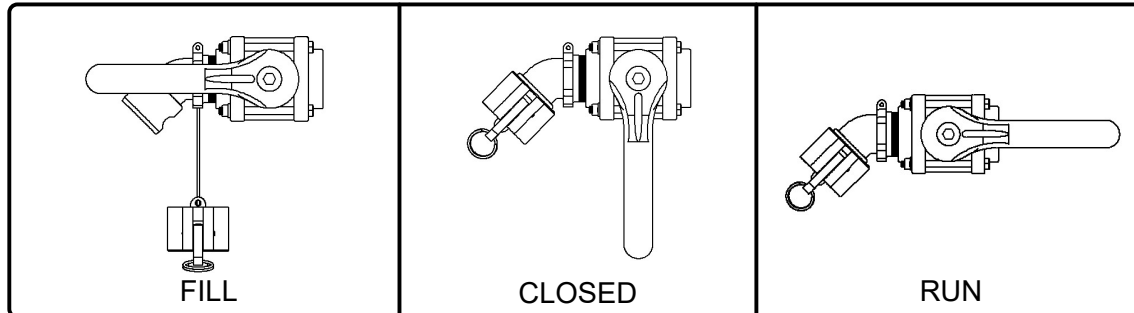

Figure 2A - Fill Position Figure 2B - Close Position Figure 2C - Run Position
4. Turn liquid valve to "Fill" position (Figure 2A).